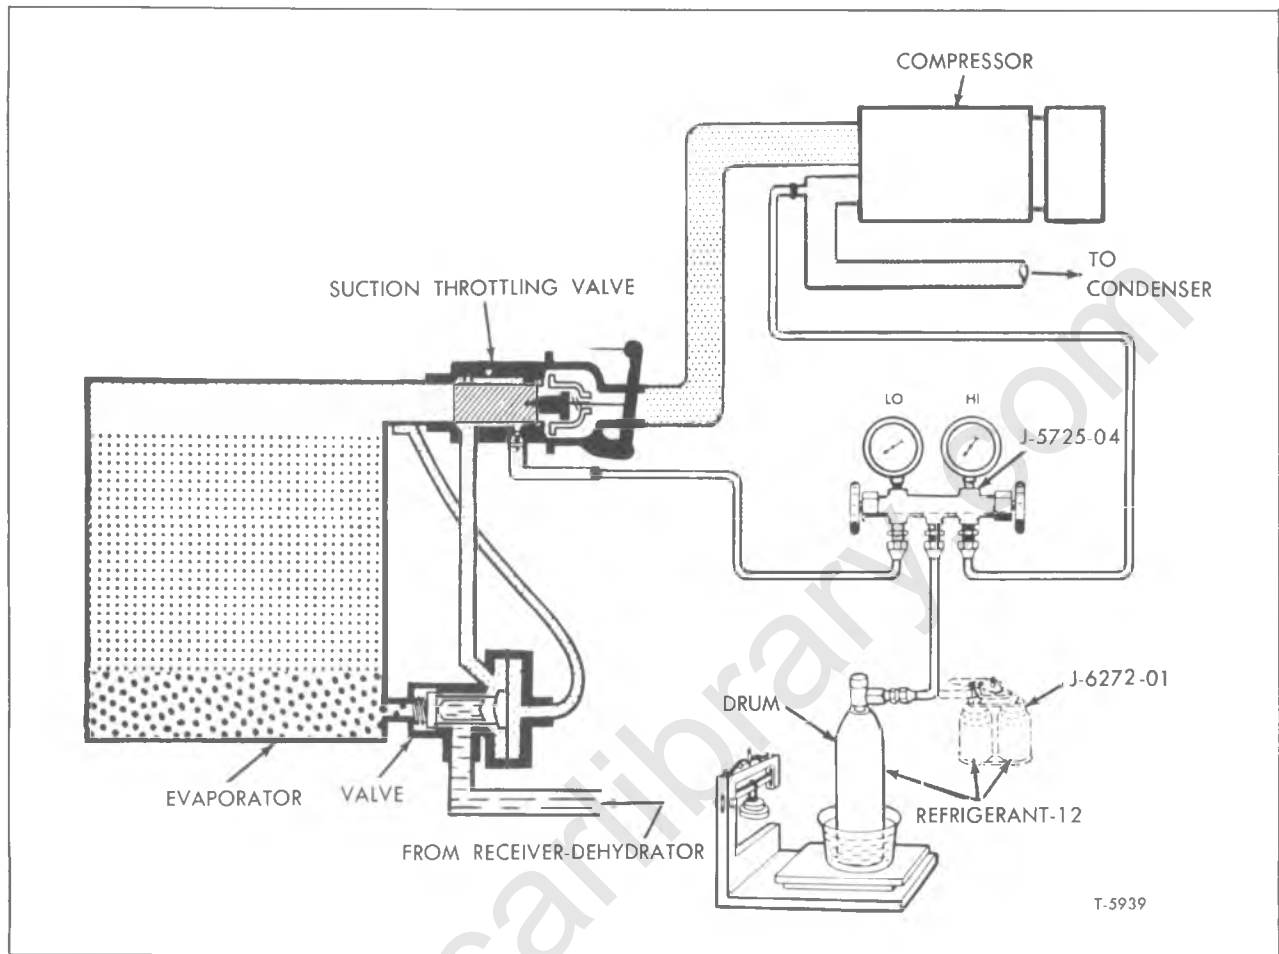

Figure 12—Hook-Up of Gauges and Charging Equipment
3. Place refrigerant drum (in pail of water) on scales (bathroom or commercial, preferably commercial) (fig. 12).